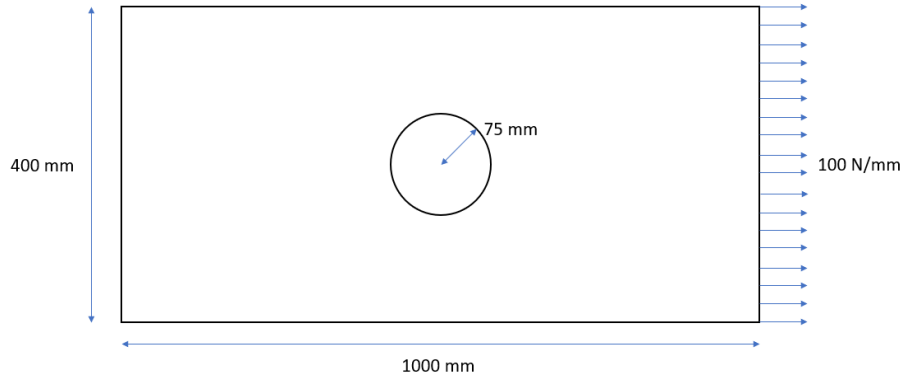

Figure 1
4. Find out the stress distribution by modeling the given rectangular plate of 2 mm thick with a circular hole. The dimensions of the steel plate and hole are shown in Figure 1: The section is made up of steel having a value of 210 GPa for Young's modulus and a value of 0.3 for Poisson's ratio.